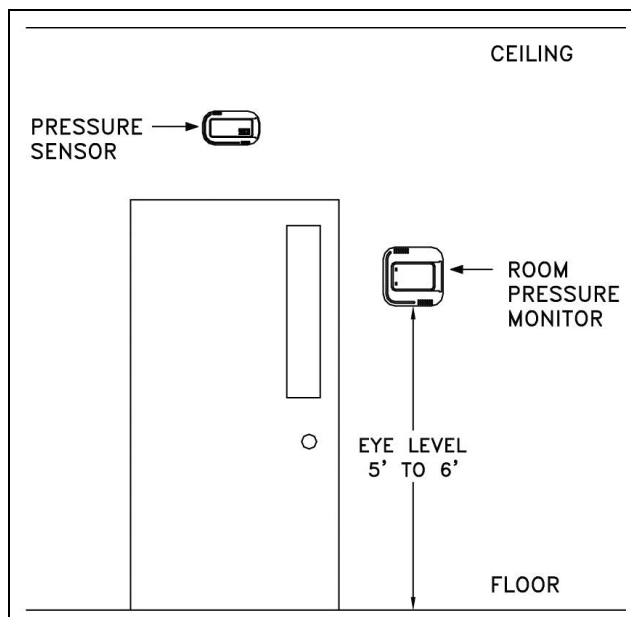

Figure 1: Typical Installation
1. Determine pressure sensor location (Figures 1, 2 and 3). Pressure sensor typically mounts in the reference space, and the dummy housing mounts in the laboratory.
1. Select the mounting location of the pressure monitor. The construction plans normally show the mounting location. If no location is specified, then the unit is typically installed as shown in Figure 1, either in the laboratory or in the hallway.